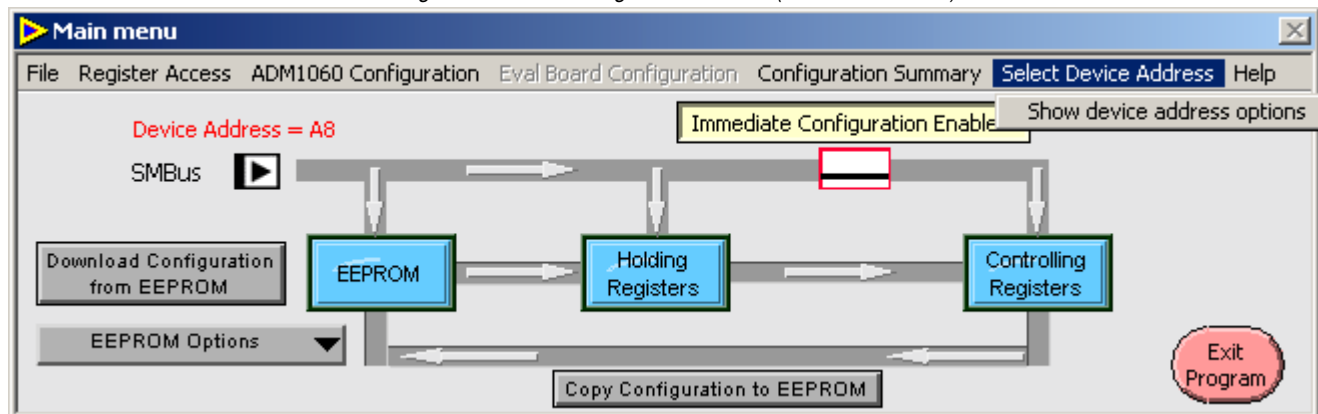

Figure 24. Floating Menu Bar (Multiple devices detected on bus).
2. **Multiple ADM1060s detected (Figure 24):** Similar to Normal mode but Select Device Address option is available. This returns the user to the Device Address Window where another device may be selected.